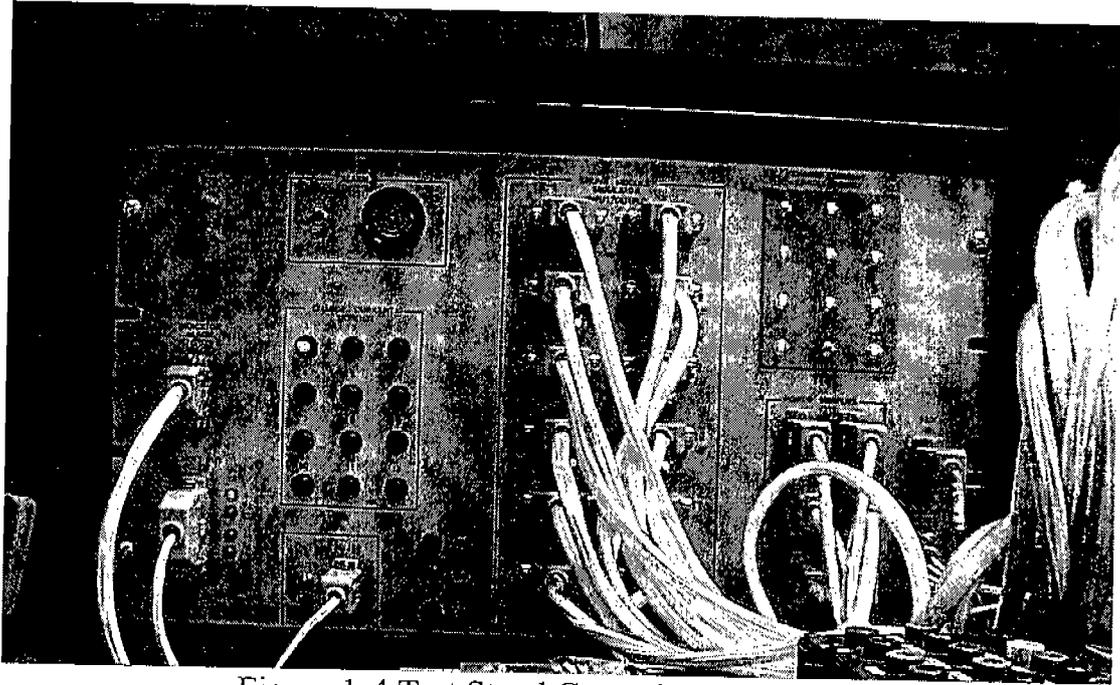

Figure 1-4 Test Stand Control Panel Layout
- 1.3.2 Figure 1-4 shows the test stand control panel layout.
6.1.1.1 Verify the Power switch on the Test Stand Control Panel (Figure 1-4) is "OFF".